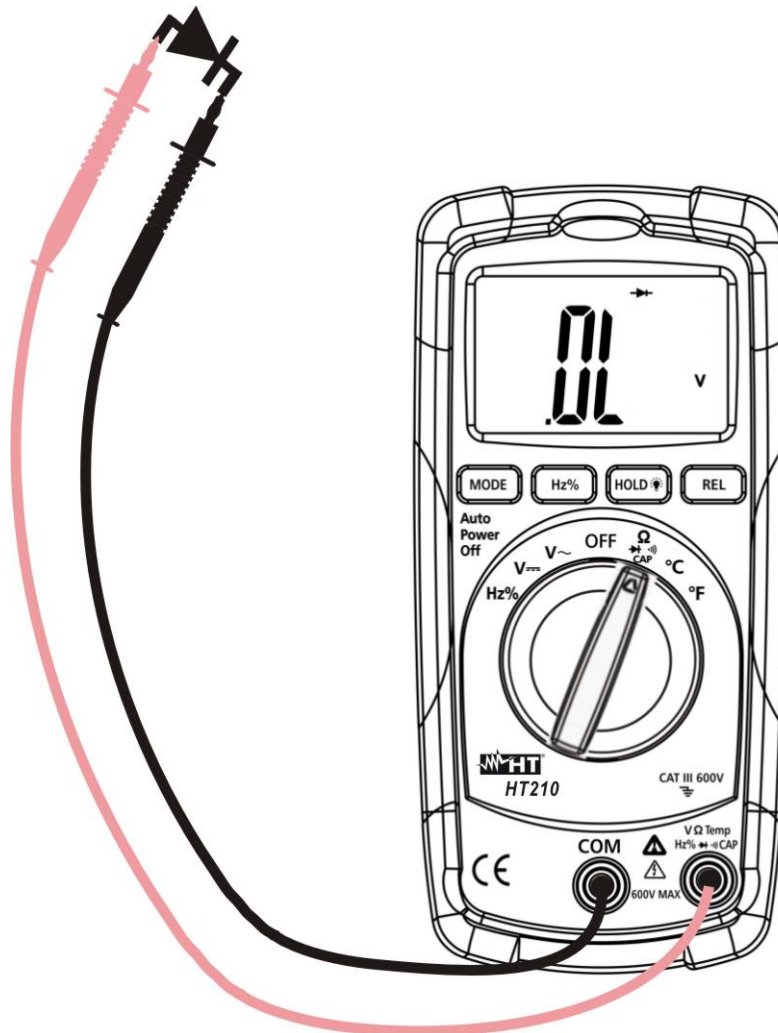

Fig. 5: Using the instrument for diode test
3. Insert the test leads into the jacks, the red plug into **VΩTempHz%CAP** jack and black plug into **COM** jack (see Fig. 5)
4. Connect the test leads to the diode under test observing the proper polarities indicated in Fig. 5. The threshold voltage value expressed in mV under this situation is displayed